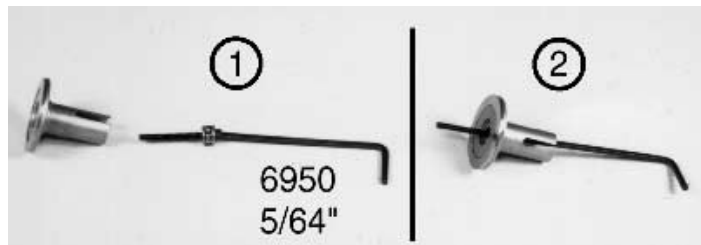

Fig. 52
□ **Fig. 52** Go back to your #6950 tool bag and remove the 5/64" Allen wrench. Slide the long end of the Allen wrench into the head of the #6575 diff thrust bolt. We will be inserting the bolt, washers, and thrust balls into the center of the #7667 right diff outdrive hub, as shown. **Note:** Associated's #6959 5/64" Allen wrench will work well here.